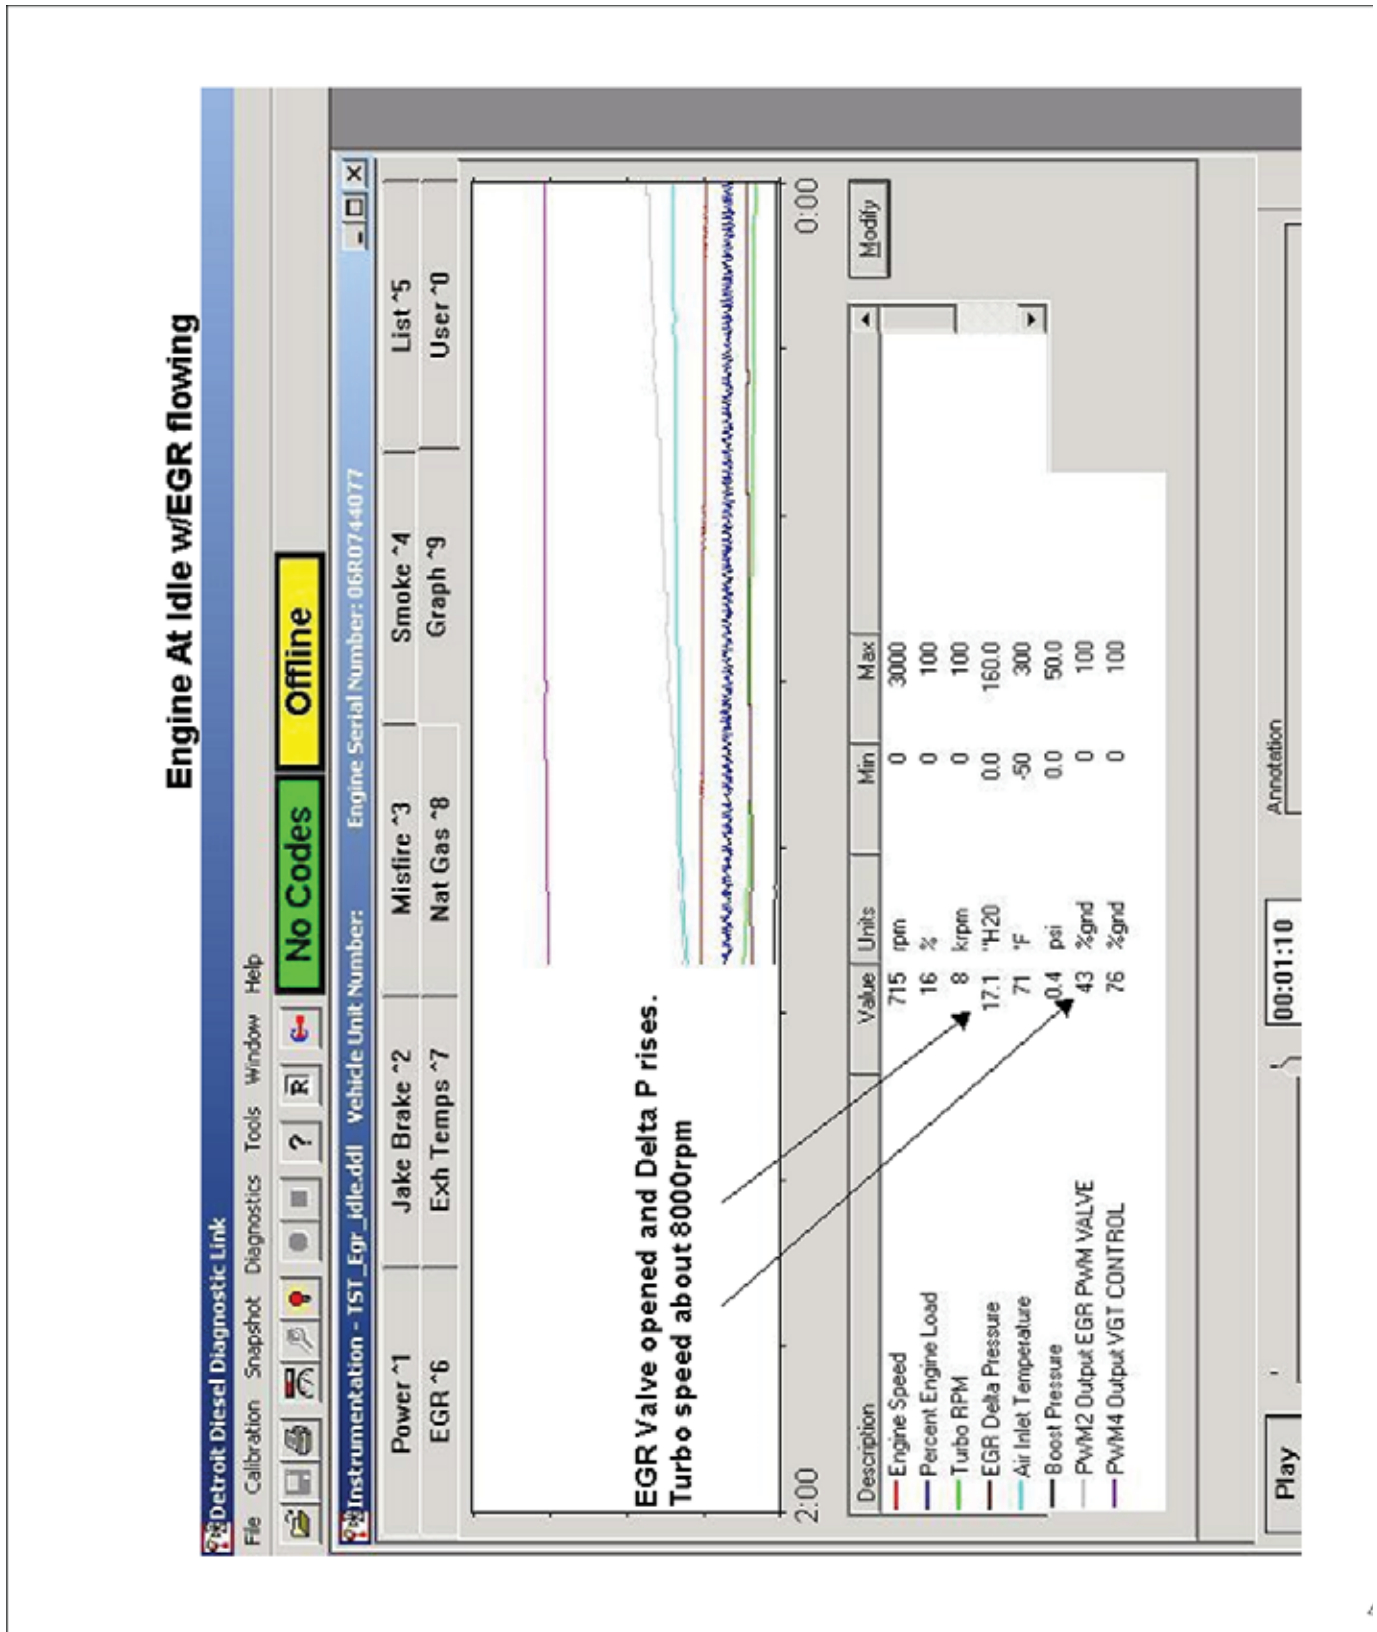

Figure 7-1 Engine at Idle with EGR Flowing
- Idle operation with EGR. See Figure 7-1.